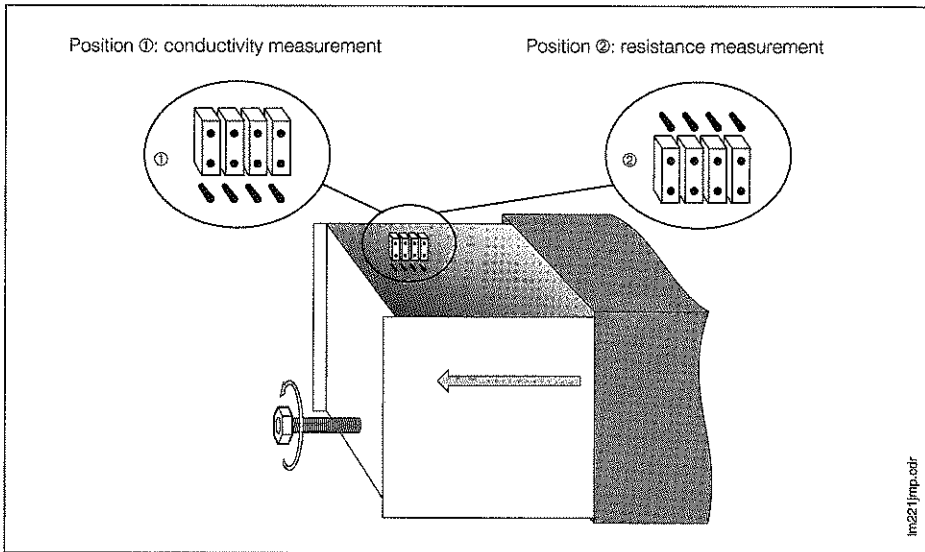

Fig. 5.2 Position of plug-in jumpers for basic configuration conductivity / resistance
For conductivity measurement (order variant CD) all 4 jumpers are in position ①, for resistance measurement (order variant MM) in position ② (see fig. 5.2).